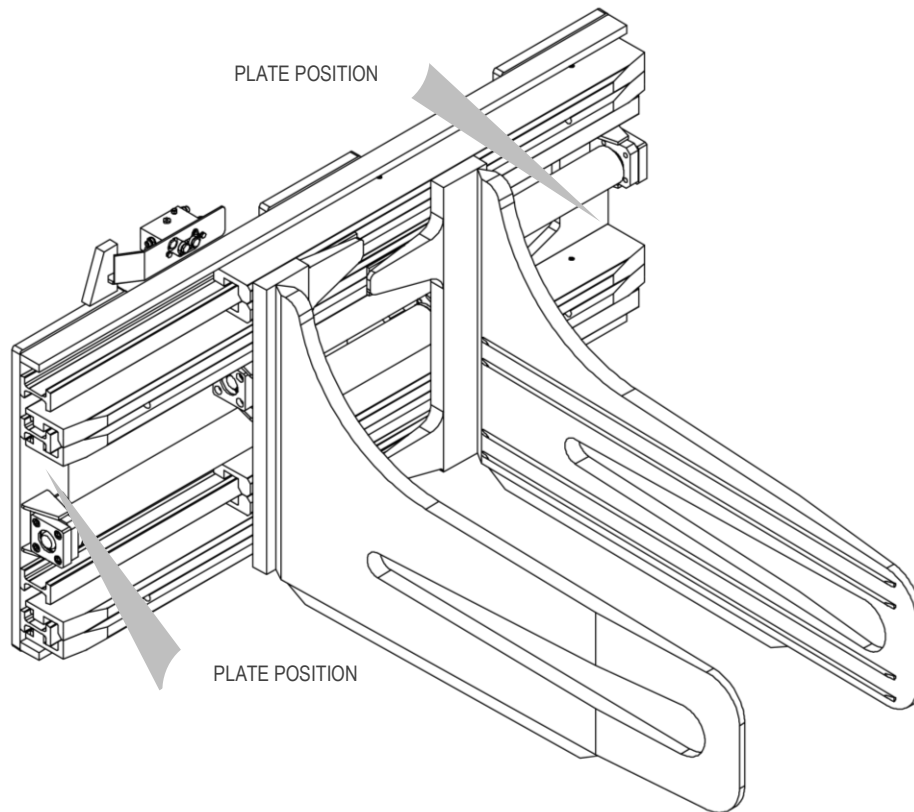

Figure 1
Table 1) located on the equipment (see *Figure 1*, in which the two main positions the identification plate can take are shown), always refer to the serial number.
5. For handling, use straps or chains that are suitably sized in relation to the weight of the equipment as indicated on the plate (see *Figure 1* and
10. Connect the hydraulic circuit, ensuring that the operating pressure of the lines is greater than or equal to that indicated on the rating plate (see *Figure 1* and